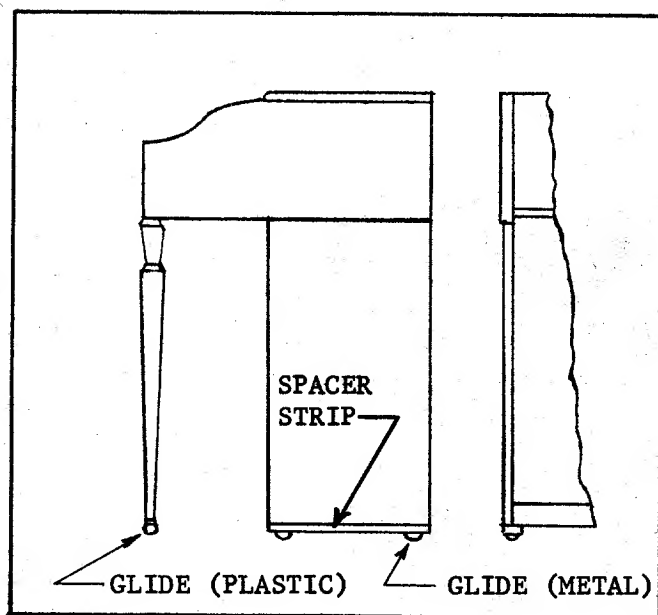

Figure 4-7. Placement of Glides
2. Securely glue and nail spacer strip to underside of each end of cabinet and remount (4) metal glides to spacer strips, approximately 1 inch from each end.
3. Insert (2) plastic glides into legs. (Care must be taken not to split leg).
4. Remove (4) metal glides on bench and install the (4) remaining glides. This completes installation. See Figure 4-7.